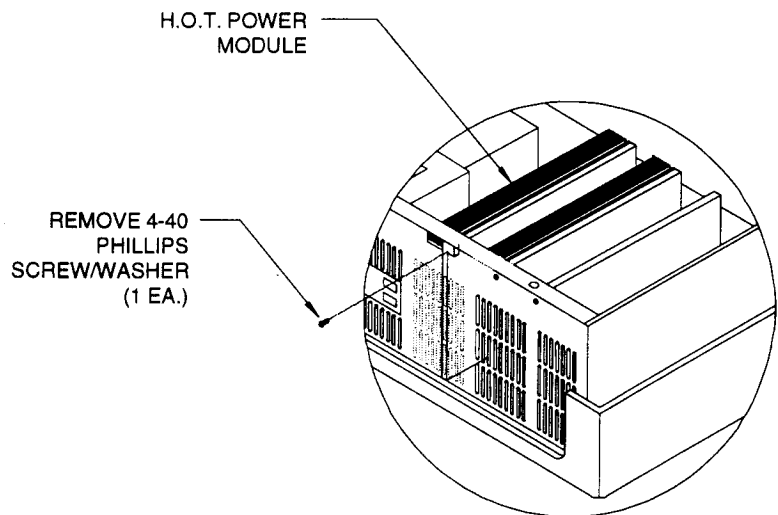

FIGURE 9-11. H.O.T. Power module replacement.
- STEP 3. Remove the single 4-40 phillips screw and lock washer securing the H.O.T. Module to the rear panel. See Figure 9-11 below.